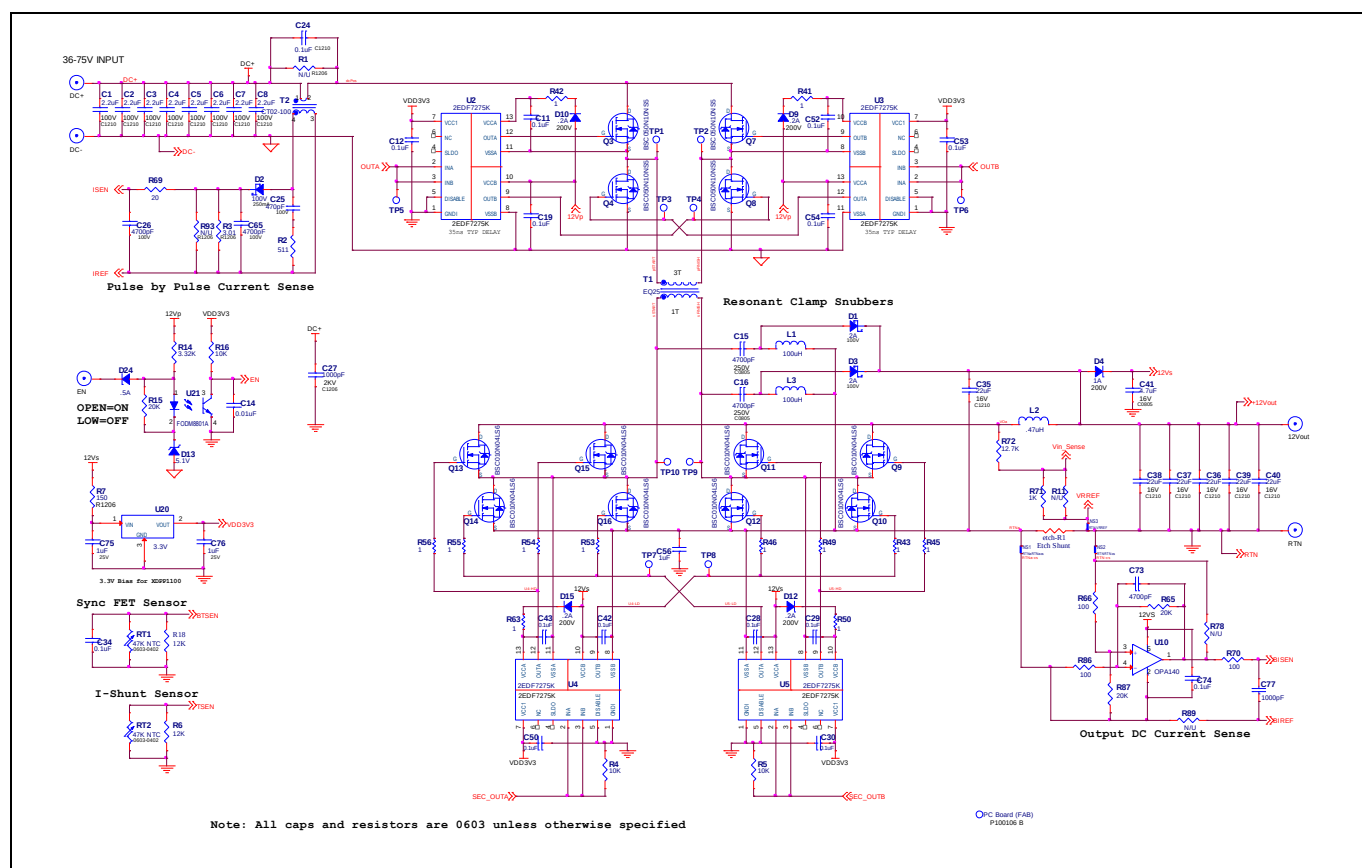

Figure 32 **Schematic of 600 W FB-FB power stage**
Figure 32 is the schematic of the power stage of the 12 V/50 A FB-FB converter. Primary MOSFETs are OptiMOS™ 100 V/5 mΩ BSC050N10NS5s. Infineon isolated gate driver **2EDF7275K** is used to drive the primary MOSFETs. The **2EDF7275K** provides 1.5 kV functional isolation and 4 A/8 A gate driver capability. The secondary synchronous rectifier (SR) uses two 40 V/1 mΩ BSC010N04LS6s in parallel at each location. The SR MOSFETs are also driven by **2EDF7275Ks** to simplify the BOM.